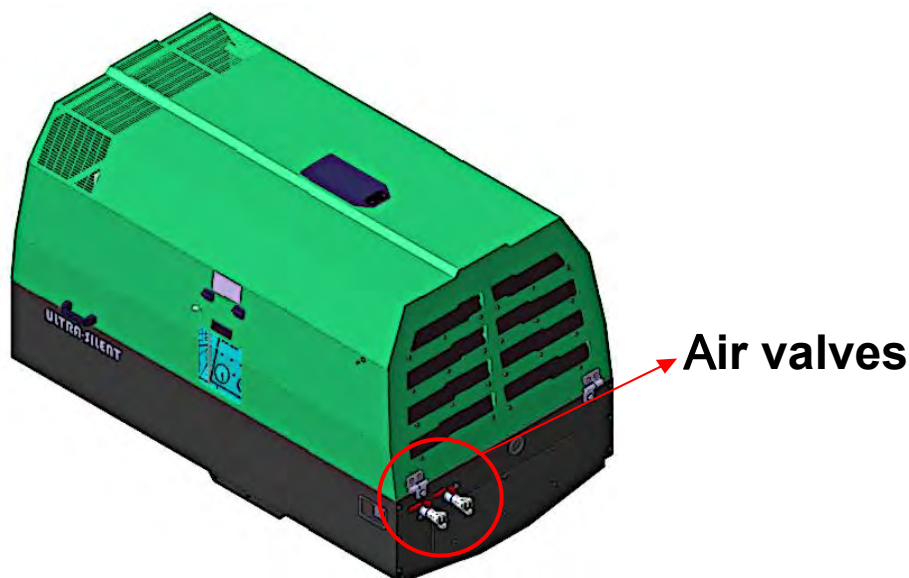
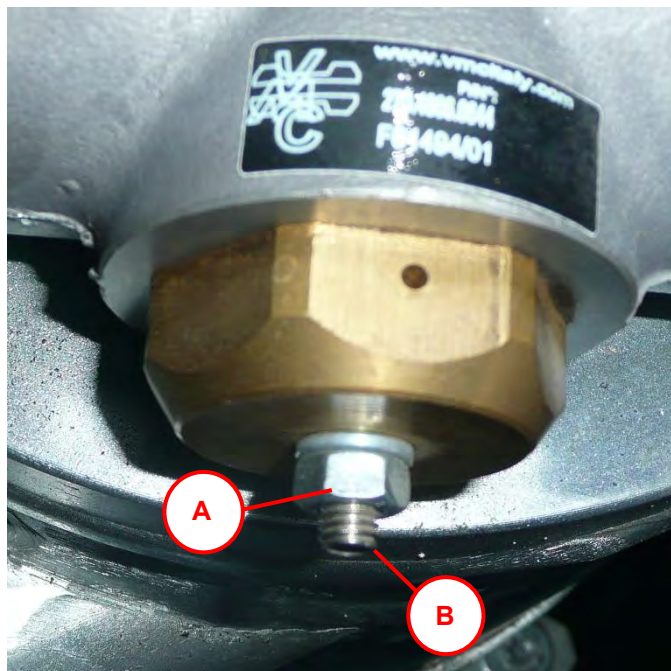

Figure 10.2-1 Location of the air valves
Figure 11.3-1 Adjusting minimum pressure of the air compressor
- 4) Progressively open the air valves (Figure 10.2-1).
- 3) Close all air valves (Figure 10.2-1)
- 3) Gradually open the air valve (Figure 10.2-1)
- 5) Loosen the 10mm lock nut on the minimum pressure valve (Letter A Figure 11.3-1)
- 8) Tighten the 10mm lock nut (Letter A Figure 11.3-1) and close the air valves (Figure 10.2-1)
- 9) Slowly open the air valve (Figure 10.2-1) and close it again, repeating the process a few times to allow the settling of the minimum pressure air valve minimum 5 bar/73psi.